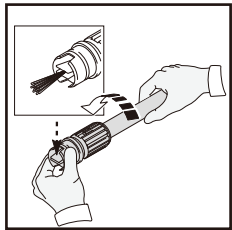

Fig. 16
- Take off the adjustable lance. Rotate the nozzle on the adjustable lance to the narrow stream setting which opens up the fan blades (Fig. 16).